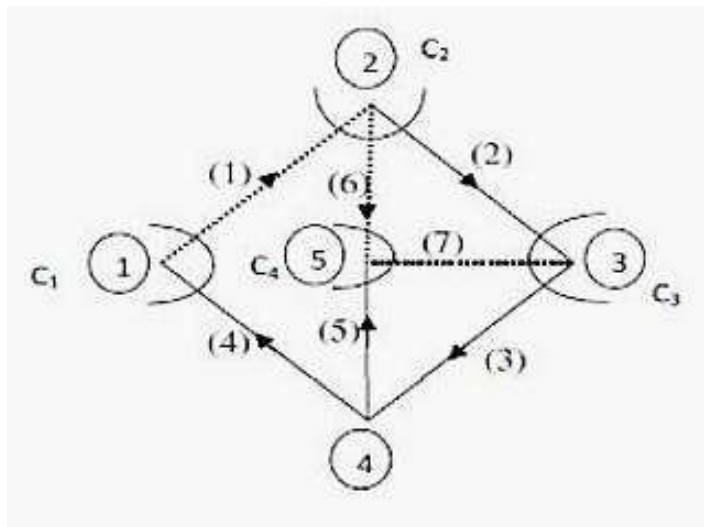

Figure 1
b) Formulate the fundamental cut set matrix for the graph shown in figure 1. [7+8]